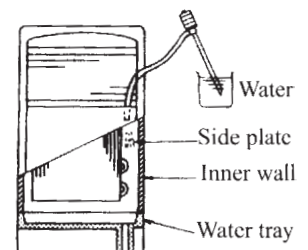

Fig 29
- (4) After finishing connection, insert water pipe to the right side of air outlet (see Fig. 29) and charge water gently to side plate of heat exchanger or inner wall of the unit. Charge 1000ml of water to check if the drainage is OK or if there is leakage.